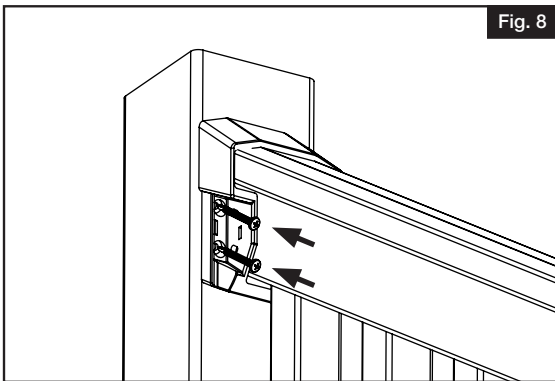

Fig. 8
- 7** a. Mark all bracket holes. Pre-drill all bracket holes with $\frac{1}{8}$ " drill bit (Fig. 8).
b. Drive screws through brackets into post using #10 x $1\frac{1}{2}$ " self-tapping square drive screws (4 per bracket) (Fig. 8).